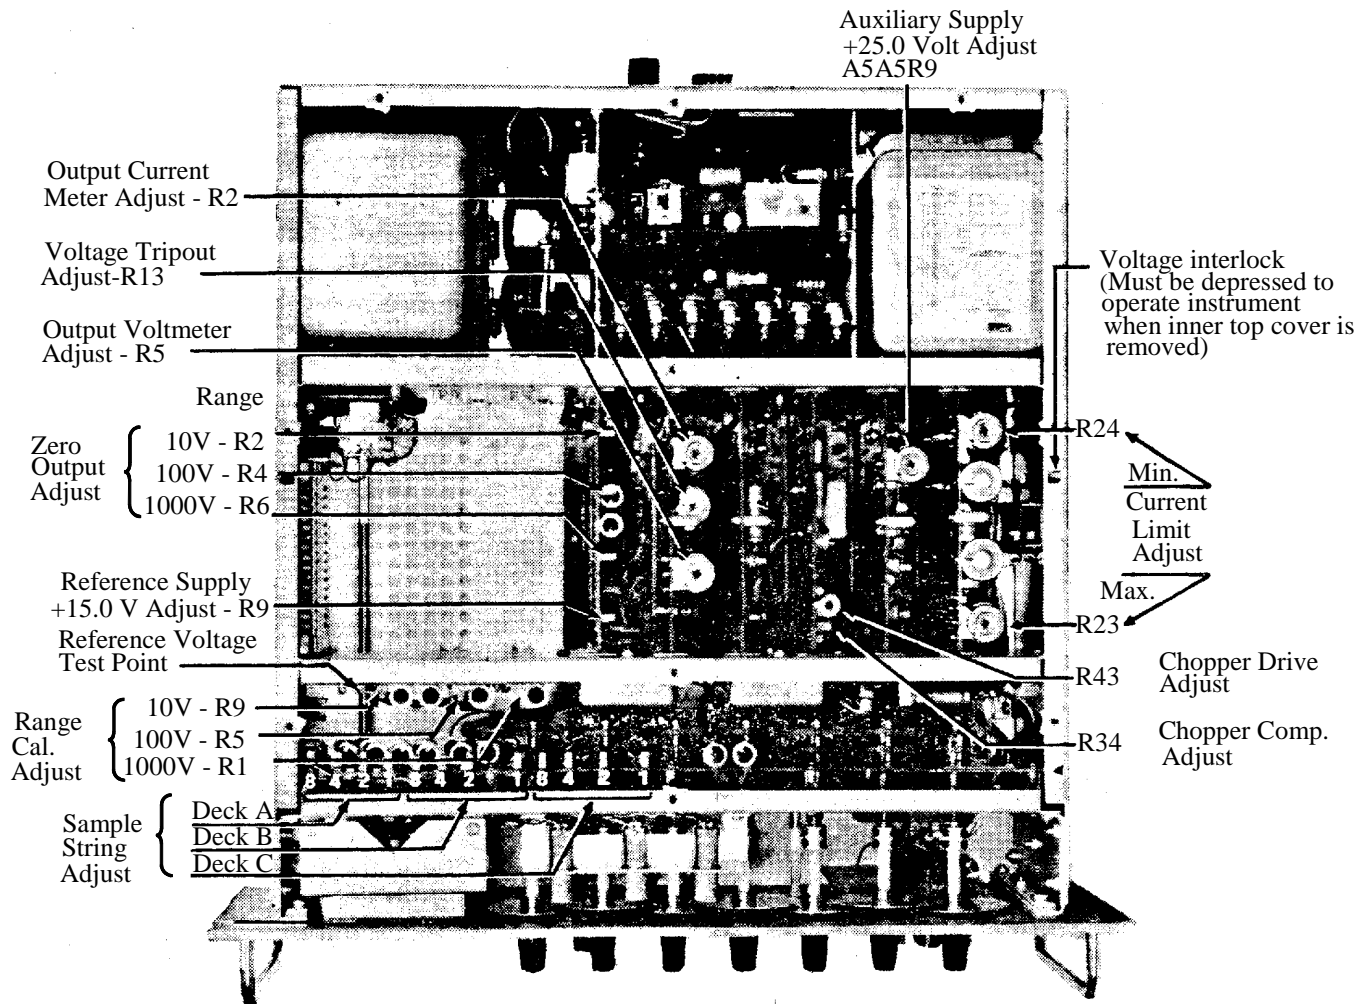

Figure 1. Location of Adjustments
3.4 Adjustments Access: Certain adjustments are necessary during the calibration process while the TI is in operation. Remove the covers from the TI just far enough, as required, to gain access for: the Range-Zero-Output-, the Sample-String-, and the Range-Cal adjustments. Refer to Figure 1 for the location of adjustments.
4.2.4 Set the TI range switch to each of the TI voltage ranges. At each TI voltage-range position, adjust the TI corresponding ZERO-OUTPUT-ADJUST range control to establish a null indication within ± 1 μ V on the null detector. Use only insulated screwdrivers or plastic alignment tools when performing the adjustments. Refer to Figure 1 for location of the adjustments.
4.3.7.3 Set the null detector OPR-ZERO switch to OPR. Make the indicated adjustment to establish a detector null indication within the tolerance limits listed, increasing the detector null-range sensitivity as required. Refer to Figure 1 for the locations of the TI RANGE-CAL or the TI SIMPLE-STRING-ADJUST potentiometers.